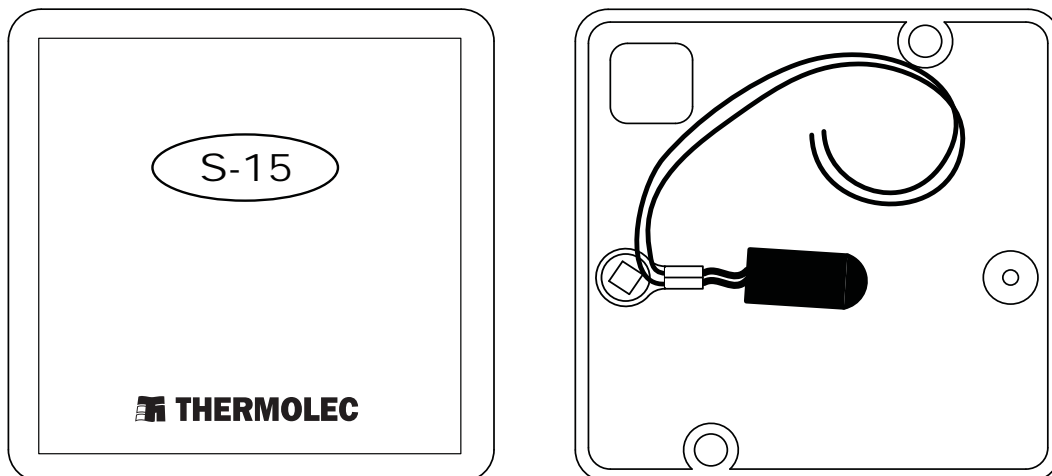

Fig. 1c
1.3 The outdoor sensor **S-15** (please see Fig.1c) is supplied with the humidistat (wall or duct mount). It ideally should be installed on an outside wall facing North. This outdoor sensor automatically reduces the setting of the humidistat according to the outdoor temperature in order to avoid condensation on windows during extremely cold days. It does the opposite during the mild days without your having to manually adjust the humidistat. The outdoor sensor is a 10 kilo-ohms NTC thermistor (negative temperature coefficient).